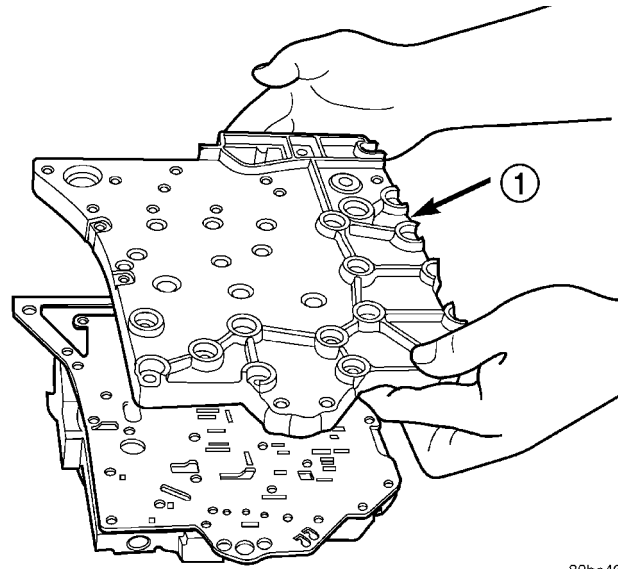

Fig. 323 Remove Transfer Plate
- 1 - SCREW (24)
(7) Invert assembly and remove Transfer Plate (Fig. 323). Beware of loose check balls.